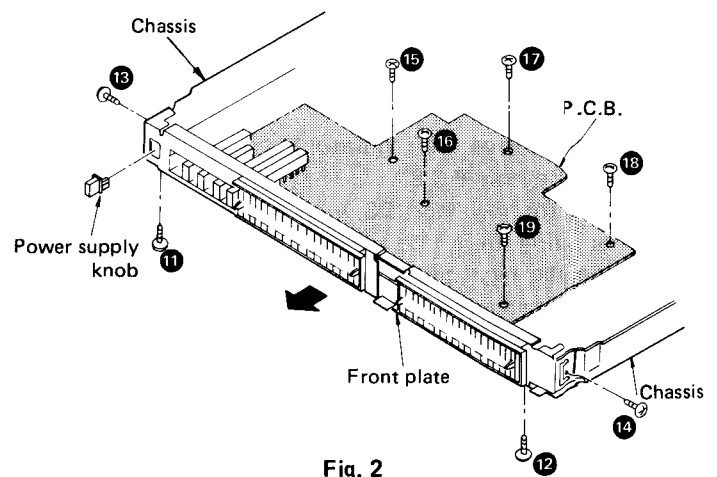

Fig. 2
3. Remove the 5 setscrews (Fig. 2 : ⑮ ~ ⑲) of the P.C.B.